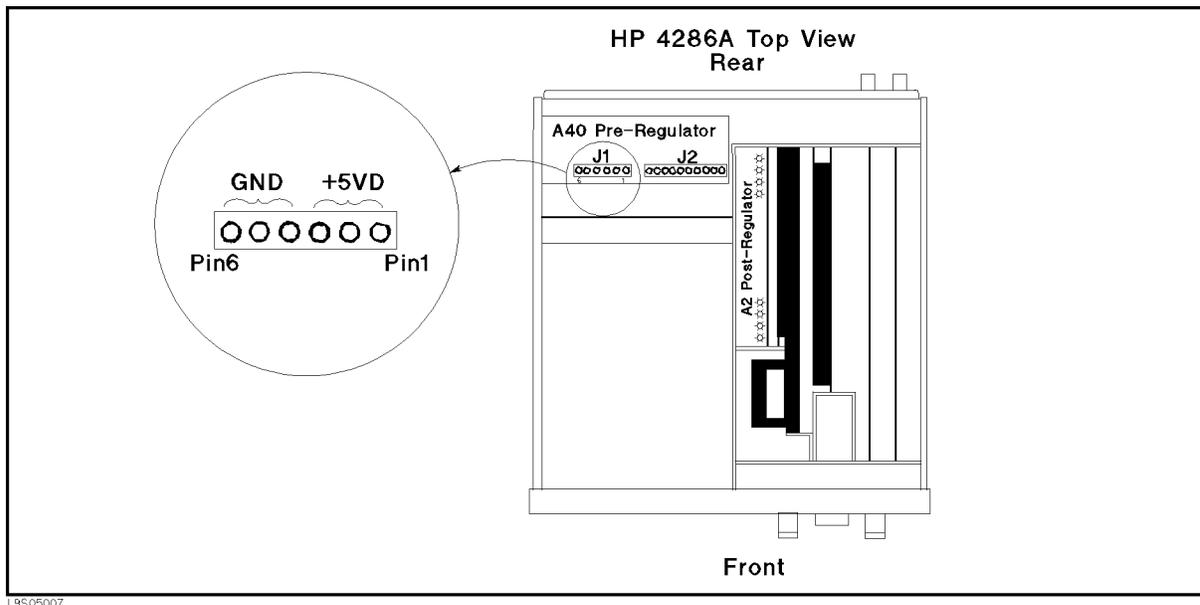

Figure 5-7. A40J1 Output Voltage
- b. Disconnect a cable form the A40J1. The A40J1 location is shown in Figure 5-7.